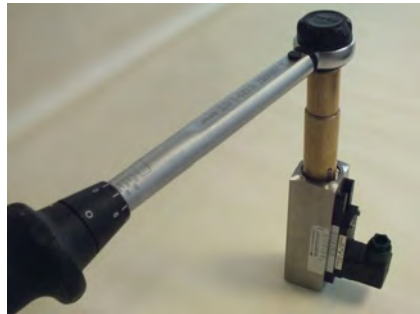

Fig. 58: Seat threaded ring (inlet)
5. Lightly seat the threaded ring (inlet) with the aid of the threaded ring insertion tool and tighten with a torque wrench (Fig. 58), observing the proper torque ( Chapter 11.1 "Tightening torque of screws" on page 89)